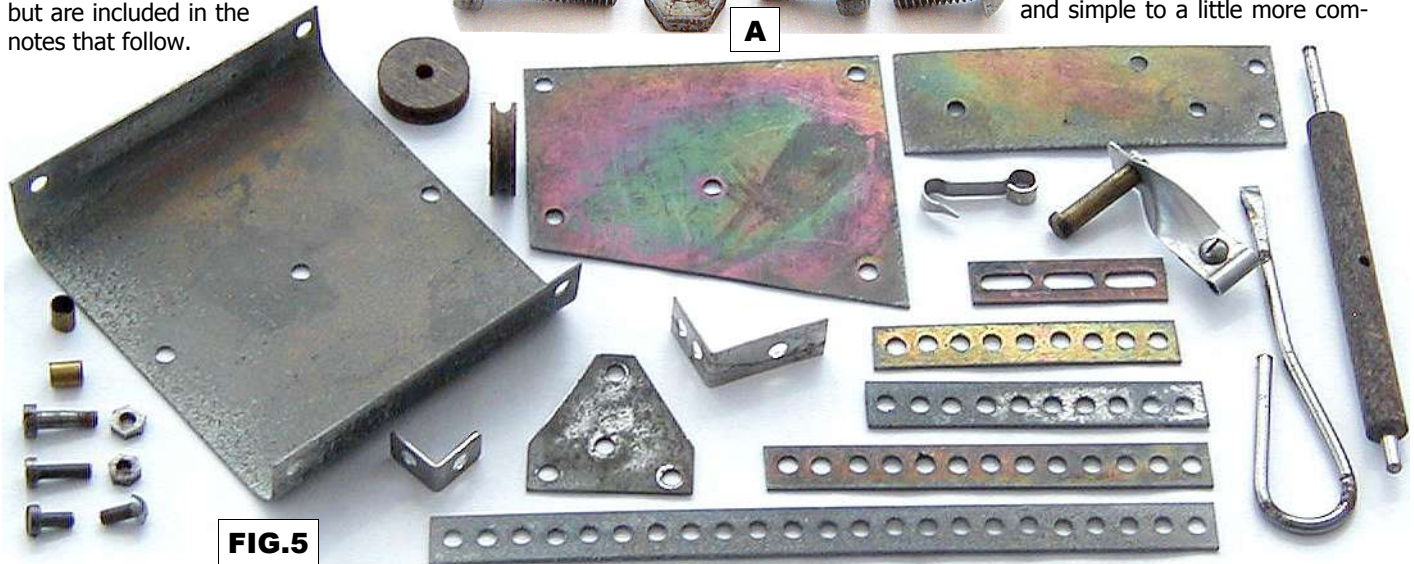

FIG.5
- **Plates**, see Figs.5 & 6, 8-9mm thick: #18, Flanged {2}; #19, Side, tapered {2}; #20, Roof, missing, near square {1}; #21, Jib Head {2}. #18-20 fit together with a lengthways hole pitch of 60mm.